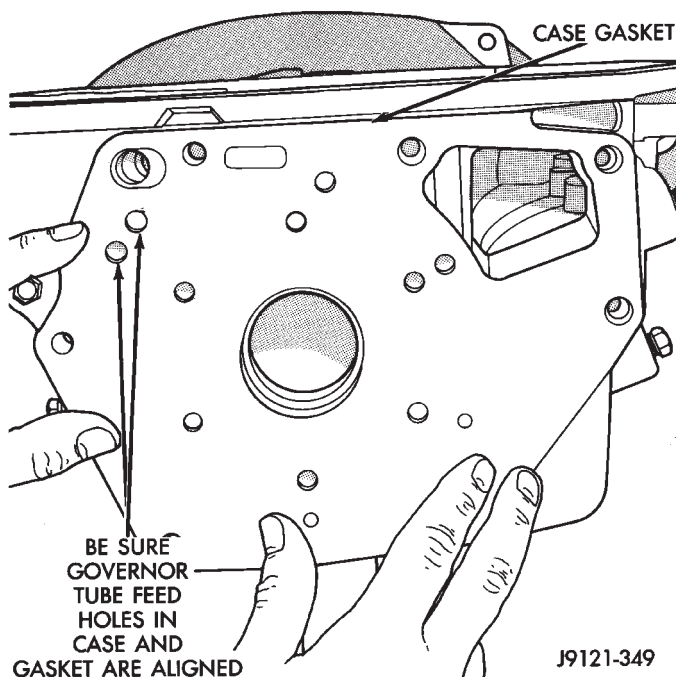

Fig. 152 Installing/Aligning Case Gasket
(13) Install new gasket at rear of transmission case. Use petroleum jelly to hold gasket in place. Be sure to align governor feed holes in gasket with feed passages in case (Fig. 152). Also install gasket before overdrive piston retainer. Center hole in gasket is